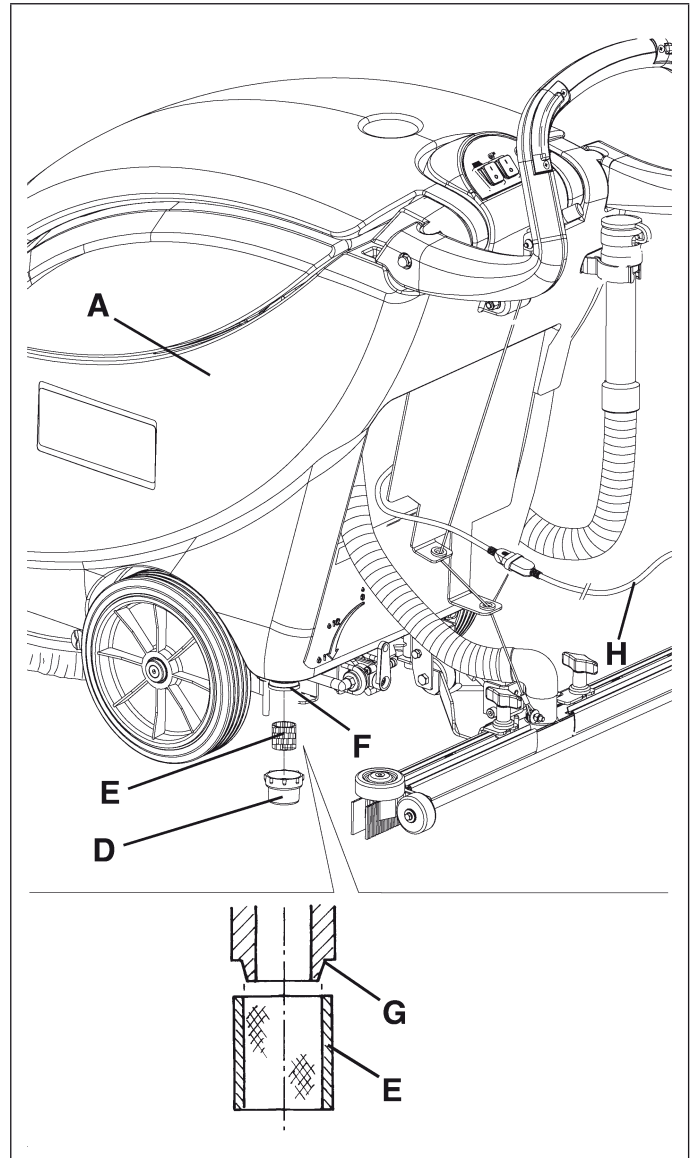

Figure 20
1. Empty the solution tank (A, Fig. 20) according to the procedure shown in the relevant paragraph.
2. Make sure that the power supply cable (H, Fig. 20) is disconnected from the electrical mains.
4. Remove the transparent cover (D, Fig. 20) and the filter strainer (E), then clean and reinstall them on the support (F).
*Properly install the strainer (E, Fig. 20) in the housing (G) of the support (F).*